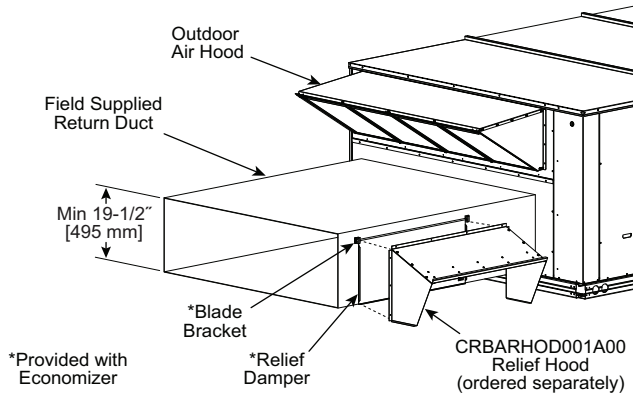

Fig. 20 — Installing CRBARHOD001A00 Over Relief Damper
4. Using the blade brackets, install the relief damper onto the side of the return duct (see Fig. 20). The two brackets and relief damper are provided with the economizer.
Caulk the backside of the mating flanges to ensure a watertight seal. Install the CRBARHOD001A00 over the relief damper and screw to the return duct, as illustrated in Fig. 20.